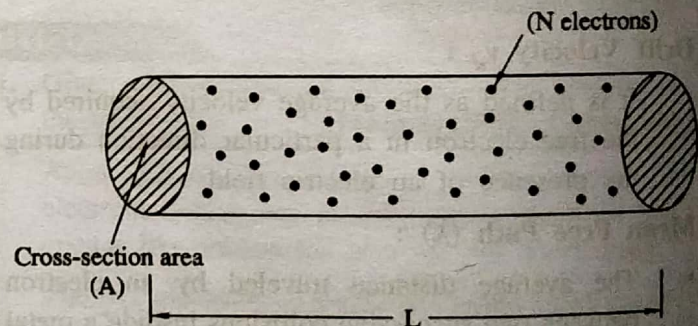

FIG. 1.11 : METAL OR CONDUCTOR
- Consider a piece of a metal or conductor in which electrons are uniformly distributed as shown in Fig. 1.11.